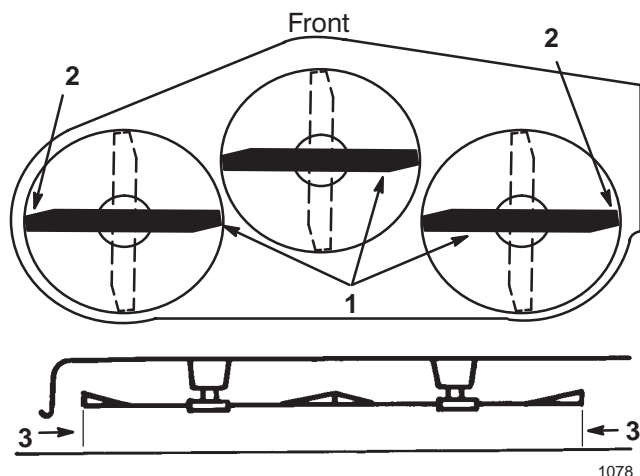

Figure 11
- Carefully rotate the blade(s) side to side (Fig. 11). Measure between the outside cutting edges and the flat surface (Fig. 11). If both measurements are not within $\frac{3}{16}$ in. (5 mm), an adjustment is required; refer to steps 4 and 5.